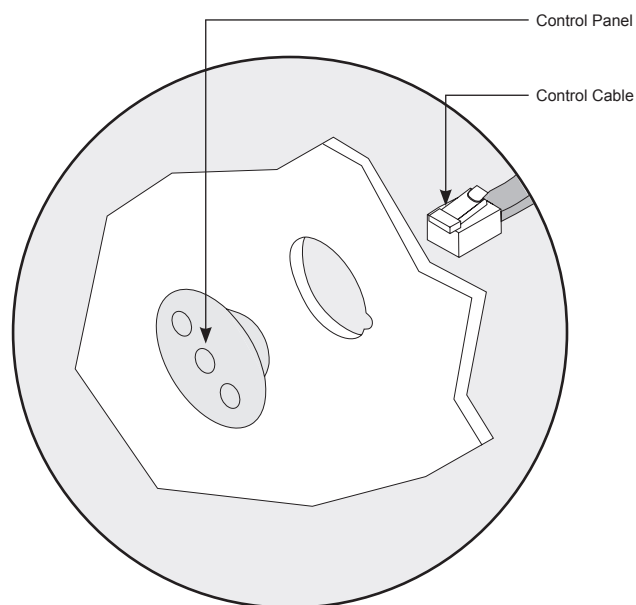

Figure 5 - Control Cable Attachment
- 10 Attach the control cable from the control box (Figure 5).